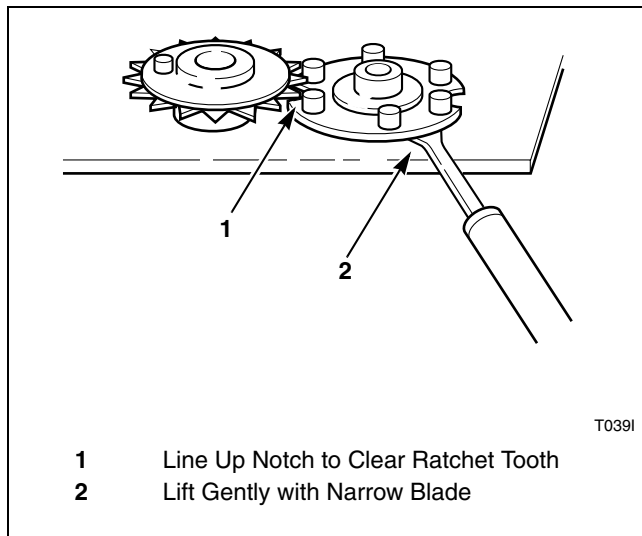

Figure 3
1. Rotate cam by hand until “V” notch lines up beneath the ratchet tooth. Refer to *Figure 3*.